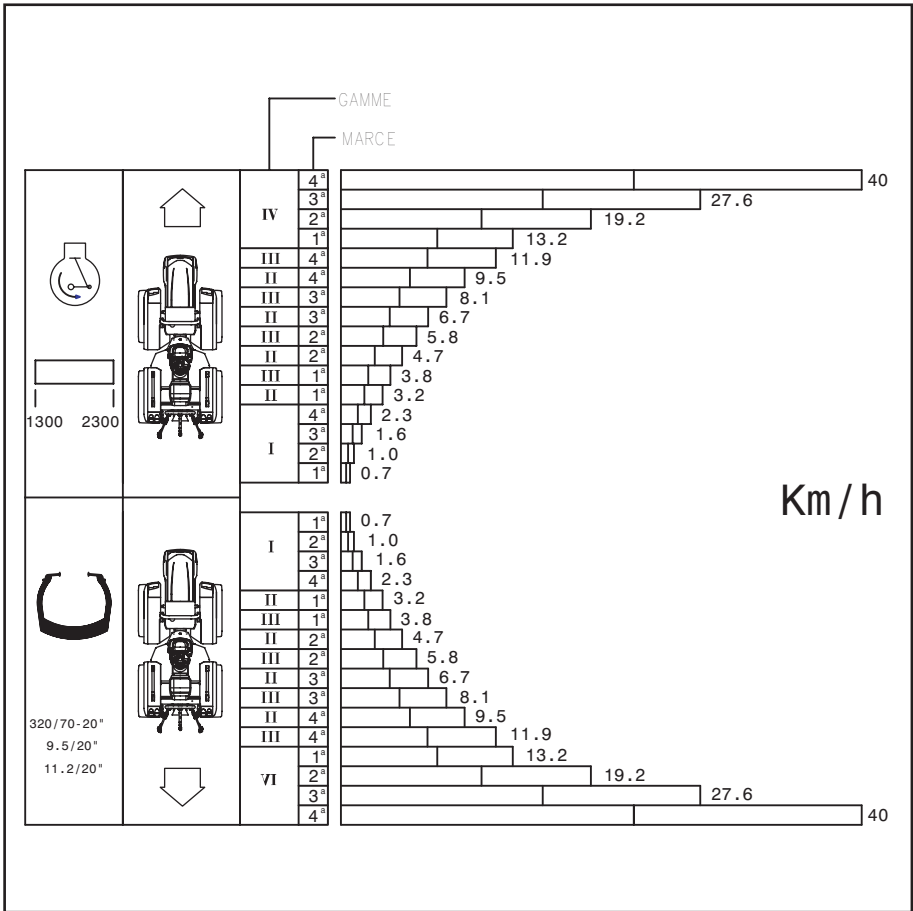
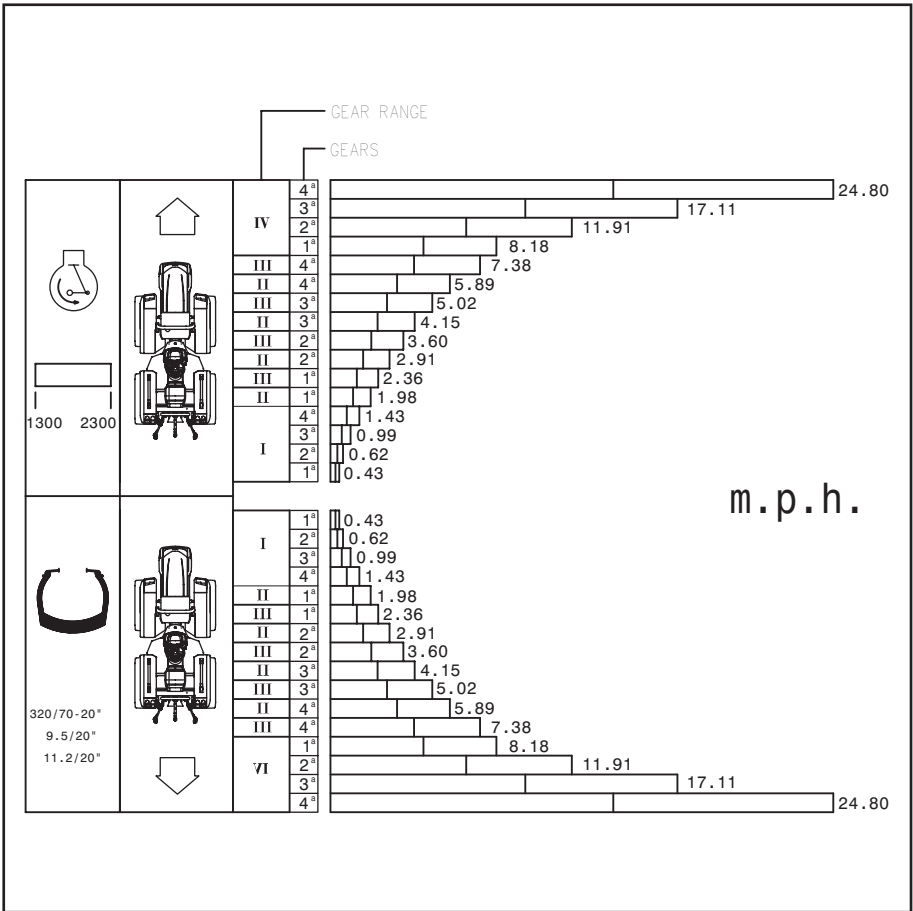

Fig. 5.23
Fig. 5.24
The decal (123) just under the steering wheel on the right indicates the perfect progressions of the gears without speed overlapping both in forward and reverse, with the indicated tires and an engine rpm between 1,300 and 2,300 (Fig. 5.23 and Fig. 5.24).